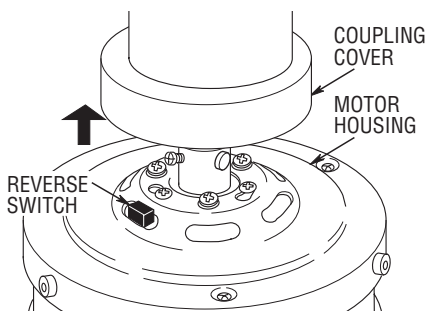

Figure 27
3. If airflow is desired in the opposite direction, turn the fan off and wait for the blades to stop turning. Then slide the coupling cover up, push the reversing switch in opposite direction (Figure 27) Slide coupling cover down to rest on motor housing and turn the fan on again. The blades will turn in the opposite direction and reverse the airflow.